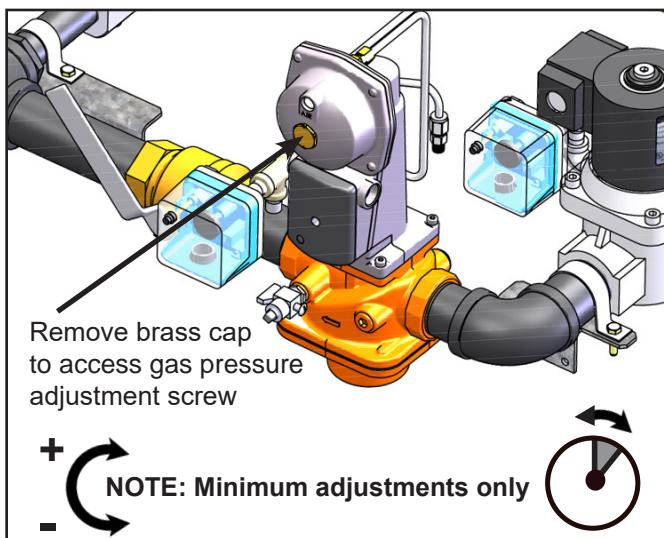

Figure 55. Gas Pressure Adjustment Screw
L. Locate the pressure adjustment on the Pressure Regulating Gas Valve by removing the brass cap at the top of the gas valve. See Figure 55